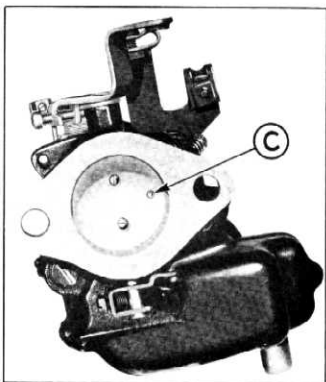

Fig. 86—Correct Assembly of Throttle Valve
- Place throttle valve on shaft with the letter "C" stamped on valve toward the idle port (fig. 86). Install new valve to shaft screws, tighten securely and upset ends so they will not loosen.